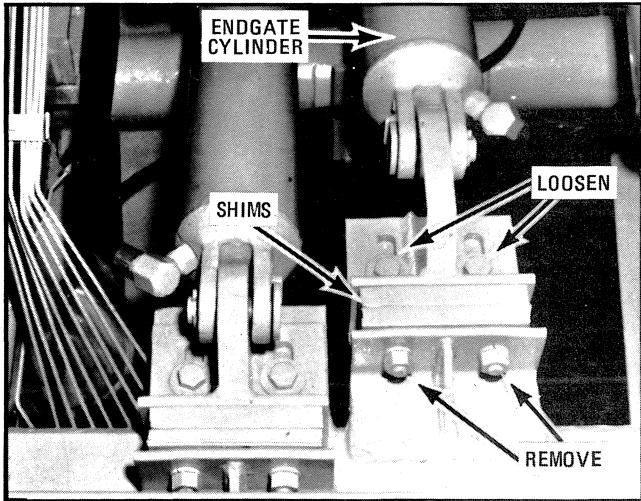

Fig. 10-Endgate Adjustment
Refer to Fig. 10 and following instructions to adjust endgate clearance.
2. Loosen the capscrews in the slotted side of the cylinder mount as shown in Fig. 10.